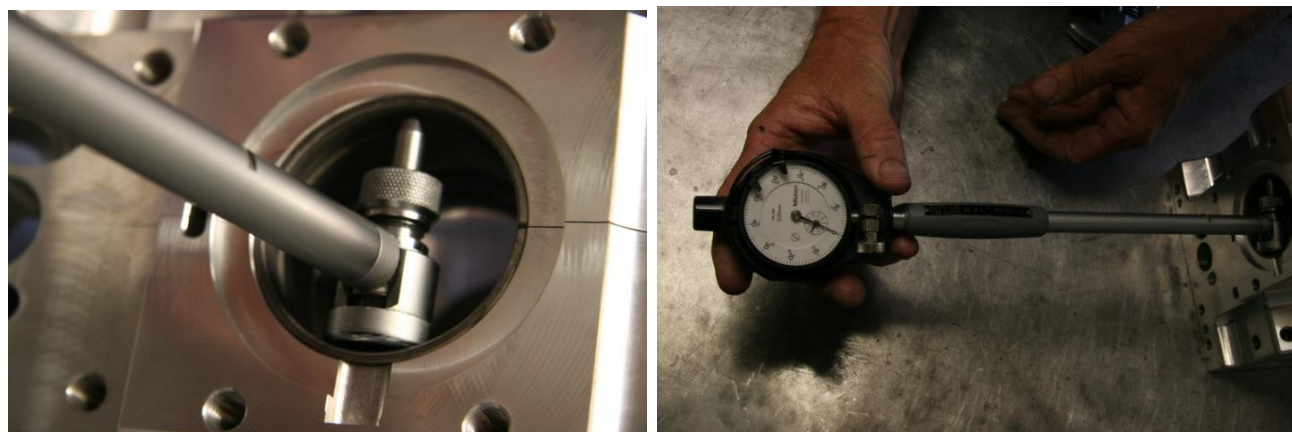

Figure 72 – Measuring Crankcase Bearing Tunnel
- Clamp the case halves together using the old studs & nuts with 8mm packers under the nuts, torque to the value given in Table 9 for through bolts (use the value appropriate to the through bolt thread on the particular engine). Torque in 3 stages, working from the centre studs out to the front & rear studs. Measure the main bearing and camshaft bore sizes horizontally and vertically as shown in Figure 72.